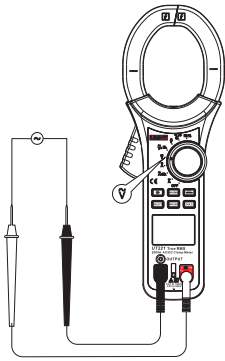

Figure 4
2. AC voltage measurement () (See Figure 4)